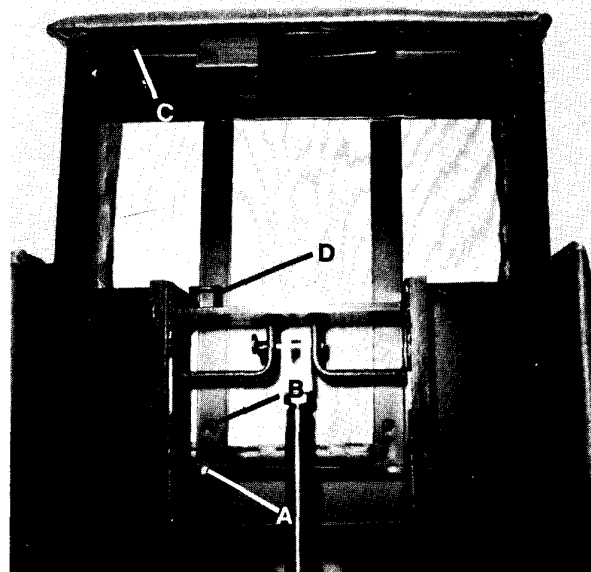

Fig. 17
- 2) Partially extend the footrest and remove the stop, Item A, Fig. 17 by removing (2) screws.
- 4) Remove the upholstered section from the footrest metal frame by removing (2) screws Item B, Fig. 17 and (2) screws, Item C, Fig. 17.
- 5) Replace the footrest upholstered section on the new metal frame, align holes, and install (2) #10-24x $\frac{3}{8}$ " screws, Item B, Fig. 17 and (2) #10-24x $\frac{5}{8}$ " screws, Item C, Fig. 17.
- 6) Replace footrest extension in seat section and attach the stop, Item A, Fig. 17 by installing (2) #10-24x $\frac{3}{8}$ " screws.